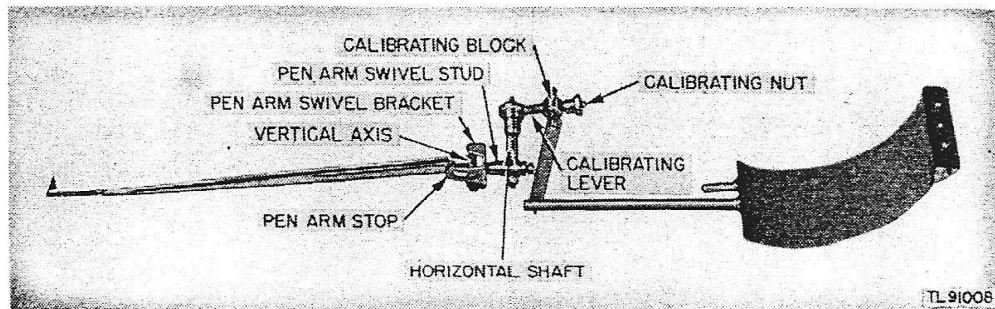

Figure 8. Thermograph ML-77, Bourdon tube, linkage system, and pen.
(2) *Thermograph ML-277*. Thermograph ML-277 uses two kinds of charts. One chart is graduated in labeled intervals of 10° from -80° F. to $+50^{\circ}$ F. The other chart ranges from -50° to $+80^{\circ}$ F. Each chart extends over a range of 130° F., but by use of both charts a total range of 160° F. may be accommodated. Two charts are necessary, since arctic temperatures may rise above $+50^{\circ}$ F. and fall below -50° F. at the same station. Time is read on these charts in the same way as on Form SC-120-A (see (1) above).
f. **Pen arm.** The pen arm is a pointed, horizontal rod which is located in front of the shifting rod (see g. below), and is attached to the horizontal shaft. The length of the pen arm from the tip of the spiked end to the center of the horizontal axis is 14 centimeters or 5.51 inches. The pen arm is free to swing inward about an inclined vertical axis (fig. 8). The pen arm carriage is fitted to the horizontal axis so that the pen arm is tilted a few degrees inward at the top.
of the Bourdon tube to the calibrating lever and pen-arm swivel stud on the horizontal shaft, transfers the motion of the Bourdon tube (par. 14a) to the pen arm (fig. 8).
(2) *Calibrating mechanism.* The calibrating mechanism (fig. 8) regulates the sweep of the pen arm.
a. Pen arm swivel bracket (fig. 8). The pen-arm swivel bracket holds the vertical axis. This bracket is mounted on the pen-arm swivel stud which is attached by a setscrew to the front end of the horizontal shaft. The swivel bracket is turned so that the vertical axis tilts inward a few degrees to provide constant pressure of the pen point against the chart.
b. Pen-arm stop (fig. 8). The pen-arm stop prevents the pen arm from swinging out too far and provides a safe limit to the outward motion of the pen arm when the point is lifted from the chart.
(3) If the pen fails to give a satisfactory record line after washing, replace it with a new pen.
c. Be sure the pen-arm swivel stud is next to the bevel at the end of the horizontal shaft (fig. 8).
e. If the pen arm rides on the shifting rod, either the shifting rod is bent, or the pen arm is set in too far on the horizontal shaft. The pen arm must be at the front edge of the shoulder of the shaft. To adjust the position of the pen arm, loosen the setscrew in the pen-arm swivel stud (fig. 8), and move the pen arm to the correct position.
a. Increasing sweep of pen arm. If the thermograph reading is too low for temperatures at the top of the chart and too high for temperatures at the bottom of the chart, the pen arm is swinging over too short an arc. To correct this condition, proceed as follows (fig. 8):
- (1) Loosen the setscrew in the calibrating block.
- (2) Turn the calibrating nut clockwise to move the vertical link nearer the horizontal shaft. This increases the sweep of the pen arm. Two or three turns of the calibrating nut may be necessary to take care of a 2- or 3-degree variation in temperature range.
- (3) Tighten the setscrew after the adjustment is made.
- (4) Reset the temperature adjusting thumbnut to the existing temperature.
- (5) Observe temperatures recorded by the thermograph long enough to get a maximum and a minimum reading. If the range is still incorrect, repeat the procedure until the required accuracy is obtained.
25. CALIBRATION AT DEPOT. a. **Thermograph ML-77.**(1) Suspend the thermograph over a water bath maintained at 32° F.